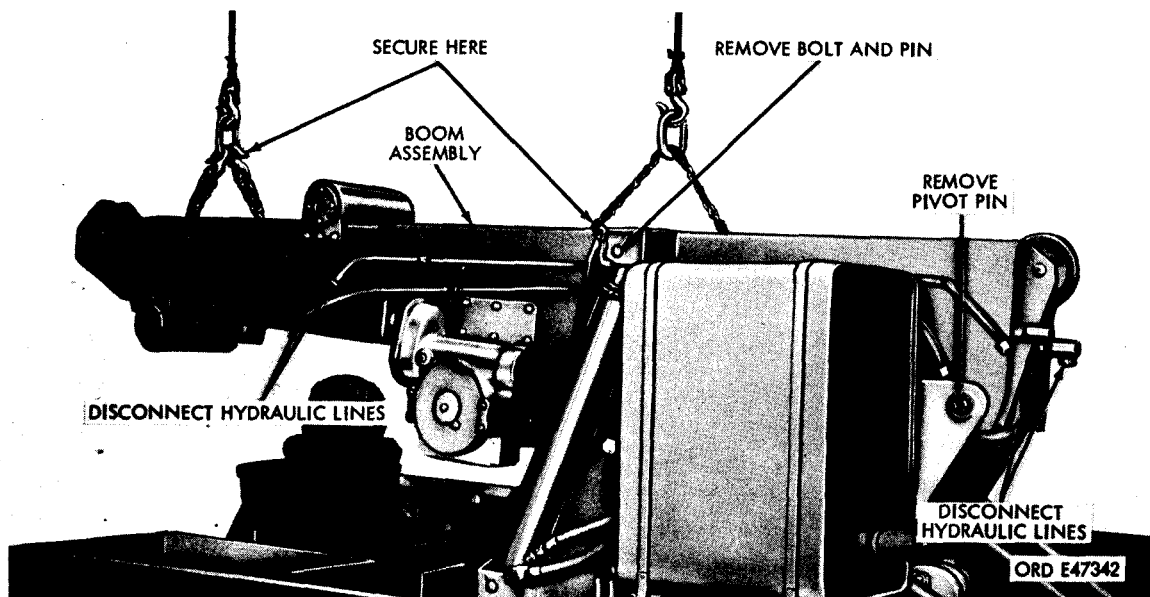

Figure 553. Removing and installing boom assembly.
b. Removal (Fig. 553).
(1) Remove cable from hoist winch drum (refer to TM 9-3220-211-20).
(2) Disconnect hydraulic lines to crowd cylinder and hoist winch hydraulic motor as shown in figure 553.
(3) Disconnect boom floodlight cable at connector (refer to TM 9-2320-211-20).
(4) Attach a suitable lifting device to boom assembly as shown in figure 553.
(5) Remove upper pins from elevating cylinders and remove pivot pin from foot end of boom and turntable. Boom assembly is now free to be lifted from turntable.
(1) Attach a suitable lifting device to boom assembly and lift into position on turntable as shown in figure 553.
(2) Position elevating cylinders and install upper pins to secure elevating cylinders and install pivot pin in foot end of boom securing it to the turntable (fig. 553).
(3) Connect boom floodlight cable to connector (refer to TM 9-2320-211-20).
(4) Connect hydraulic lines to crowd cylinder and hoist winch hydraulic motor as shown in figure 553.
(5) Install cable on hoist winch drum (refer to TM 9-2320-211-20).
a. General. The inner boom rolls on two roller assemblies (fig. 553) mounted on the outer boom. These assemblies are identical in design and construction.
- (1) Remove boom assembly (para 406).
- (2) Remove inner boom (para 423).
- (3) Remove the six screws securing the up-
per roller assembly and remove assembly (fig. 553).
(4) Remove the six screws securing the lower roller assembly and remove assembly (fig. 553).
(1) Install the upper roller assembly and secure with six screws (fig. 553).
(2) Install the lower roller assembly and secure with six screws (fig. 553).
(3) Install the inner boom (para 423).
(4) Install the boom assembly (para 406).